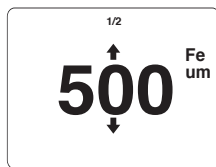

Figure 5
4. Press the \blacktriangle and \blacktriangledown arrows to adjust the value to the actual thickness of the standard coating thickness film (as shown in Figure 5).